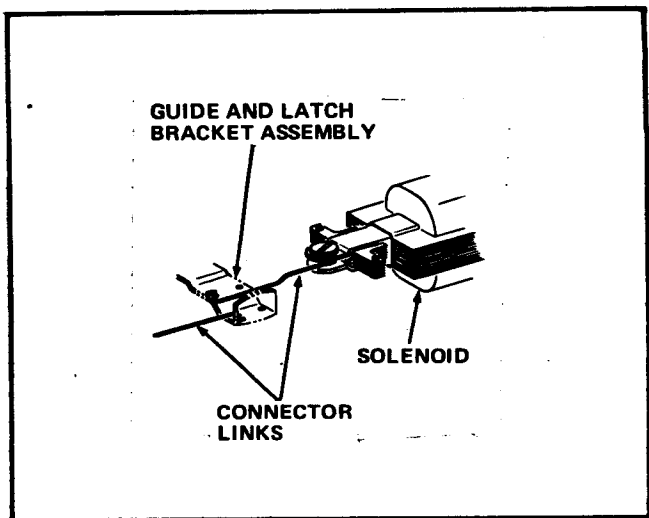

FIGURE 24
2. *If the Push Button Assembly being replaced is the one next to the Solenoid, the link from the Solenoid fits into the lower hole of the set of holes closest to the Pivot of the Lever, in line with the other link. See Figure 24.*